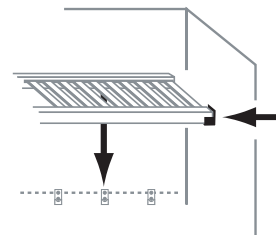

FIG. 1.4
- Place **TOP (A)** shelf onto L-Hooks and position Shelf End Bracket onto front shelf end at closet side wall location (Fig. 1.4)